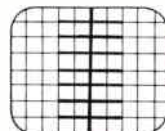

Fig. 7 Center vertical convergence.
15. Check convergence of the horizontal lines at the center vertical line (see Fig. 7). If additional adjustment is necessary, the connections to each vertical dynamic convergence coil may be changed to either reverse its polarity or remove it completely from the circuit. Clips and lugs are provided on the top of the assembly for ease of altering these connections.